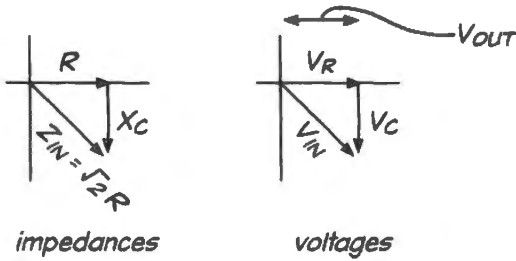

Figure 2N.39 Phasor diagram explains *geometrically* the RC 's 45° phase shift at f_{3dB} .
- if $-j(1/\omega RC)$ has value unity, which means $\omega = 1/RC$, then we're at f_{3dB} and $V_{out}/V_{in} = \frac{1}{1-j}$. This has magnitude $\frac{1}{\sqrt{2}}$, more usually described as “-3dB.”¹³ The presence of j in the expression promises phase shift. A phasor diagram like the one back in Fig. 2N.31 may be the best way to illustrate why that phase shift is 45° . The phase shift is the angle between the hypotenuse (V_{in}) and the voltage across R . The latter voltage “leads” V_{in} by 45° . Fig. 2N.39 shows a short form of that figure again.